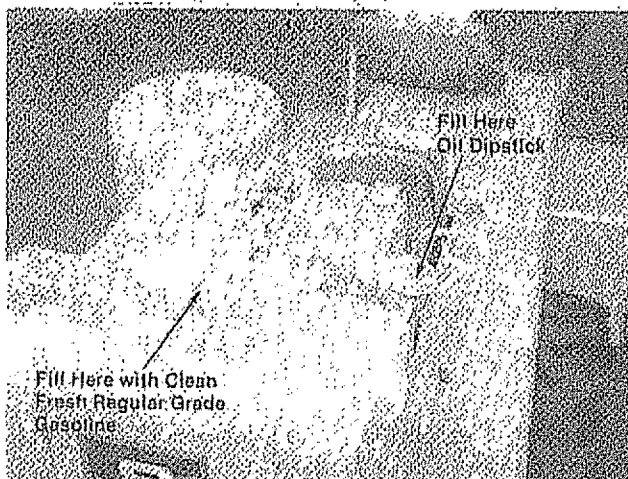

FIGURE 14.
1. Before starting. Fill crankcase with 2 3/4 pints of SAE 30 heavy duty detergent oil or to full mark on dipstick. Be sure that engine is level. See figure 14.
3. Fill fuel tank with clean fresh regular grade of gasoline. See figure 14.